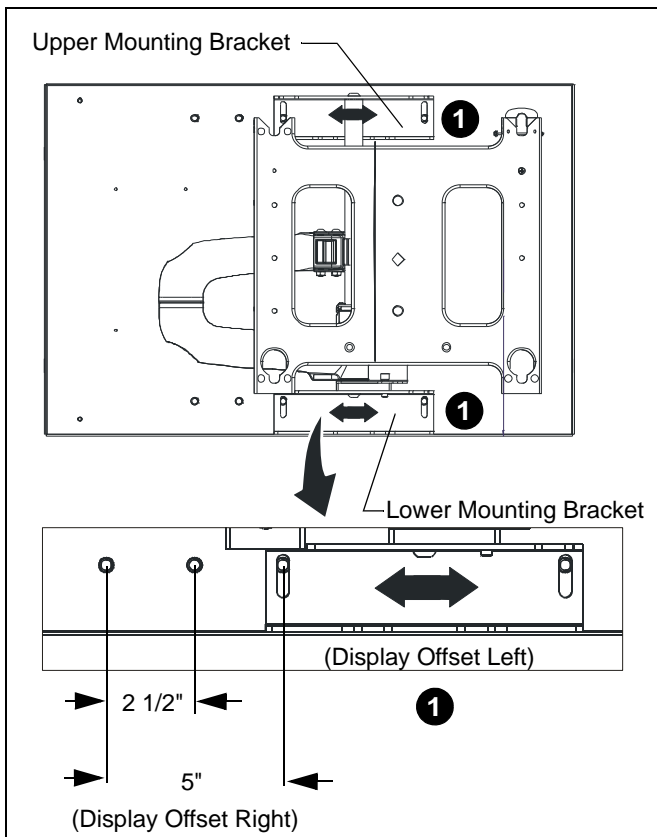

Figure 2
The PAC501 is designed to accommodate up to 5" of right or left display offset. This is accomplished by aligning the upper and lower mounting brackets on the MWRIW with either the right hand or left hand mounting holes in the PAC501. (See Figure 2)
1. Align mounting holes in swing arm UPPER and LOWER mounting brackets with four mounting holes in PAC501. (See Figure 2)